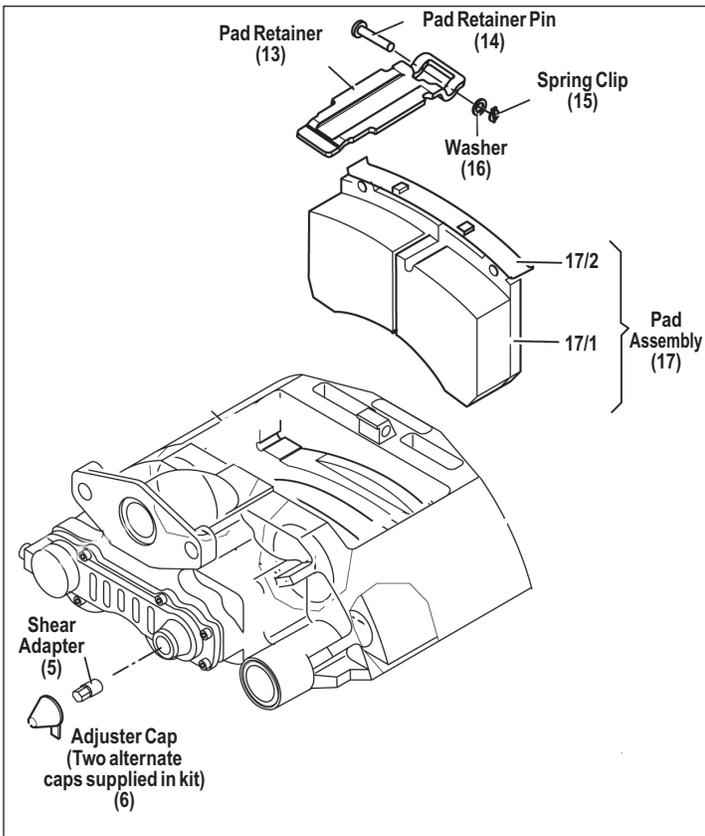

Figure 2 - Part Identification
Refer to Figures 2 to 5 throughout this procedure. Remove the clip (15) and washer (16), depress the pad retainer (13) and remove the pad retainer pin (14). If the installer is using a brake pad replacement kit, discard these four items – replacements are included in the pad service kit. As necessary, remove any in-pad wear sensor components. (*See Service Data Sheet SD-23-7541 for more information about wear sensors.*)